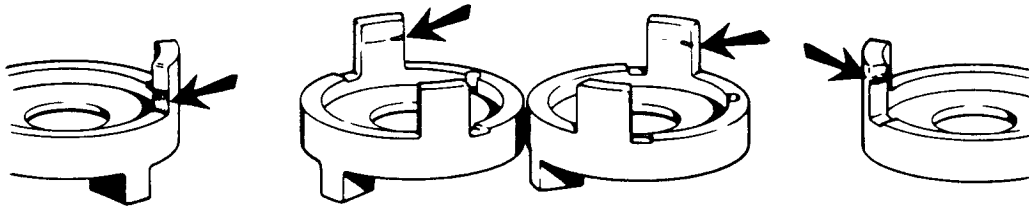

Figure 74-15. Points of Coupling Body Wear
6. Inspect ears of coupling body for grooves worn by tail of flyweights and wear at triggering ramp and cam stop contact areas. (Refer to figure 74-15.) If either ear shows a perceptible groove or a ridge can be felt when fingernail is drawn across the surface, replace coupling body.